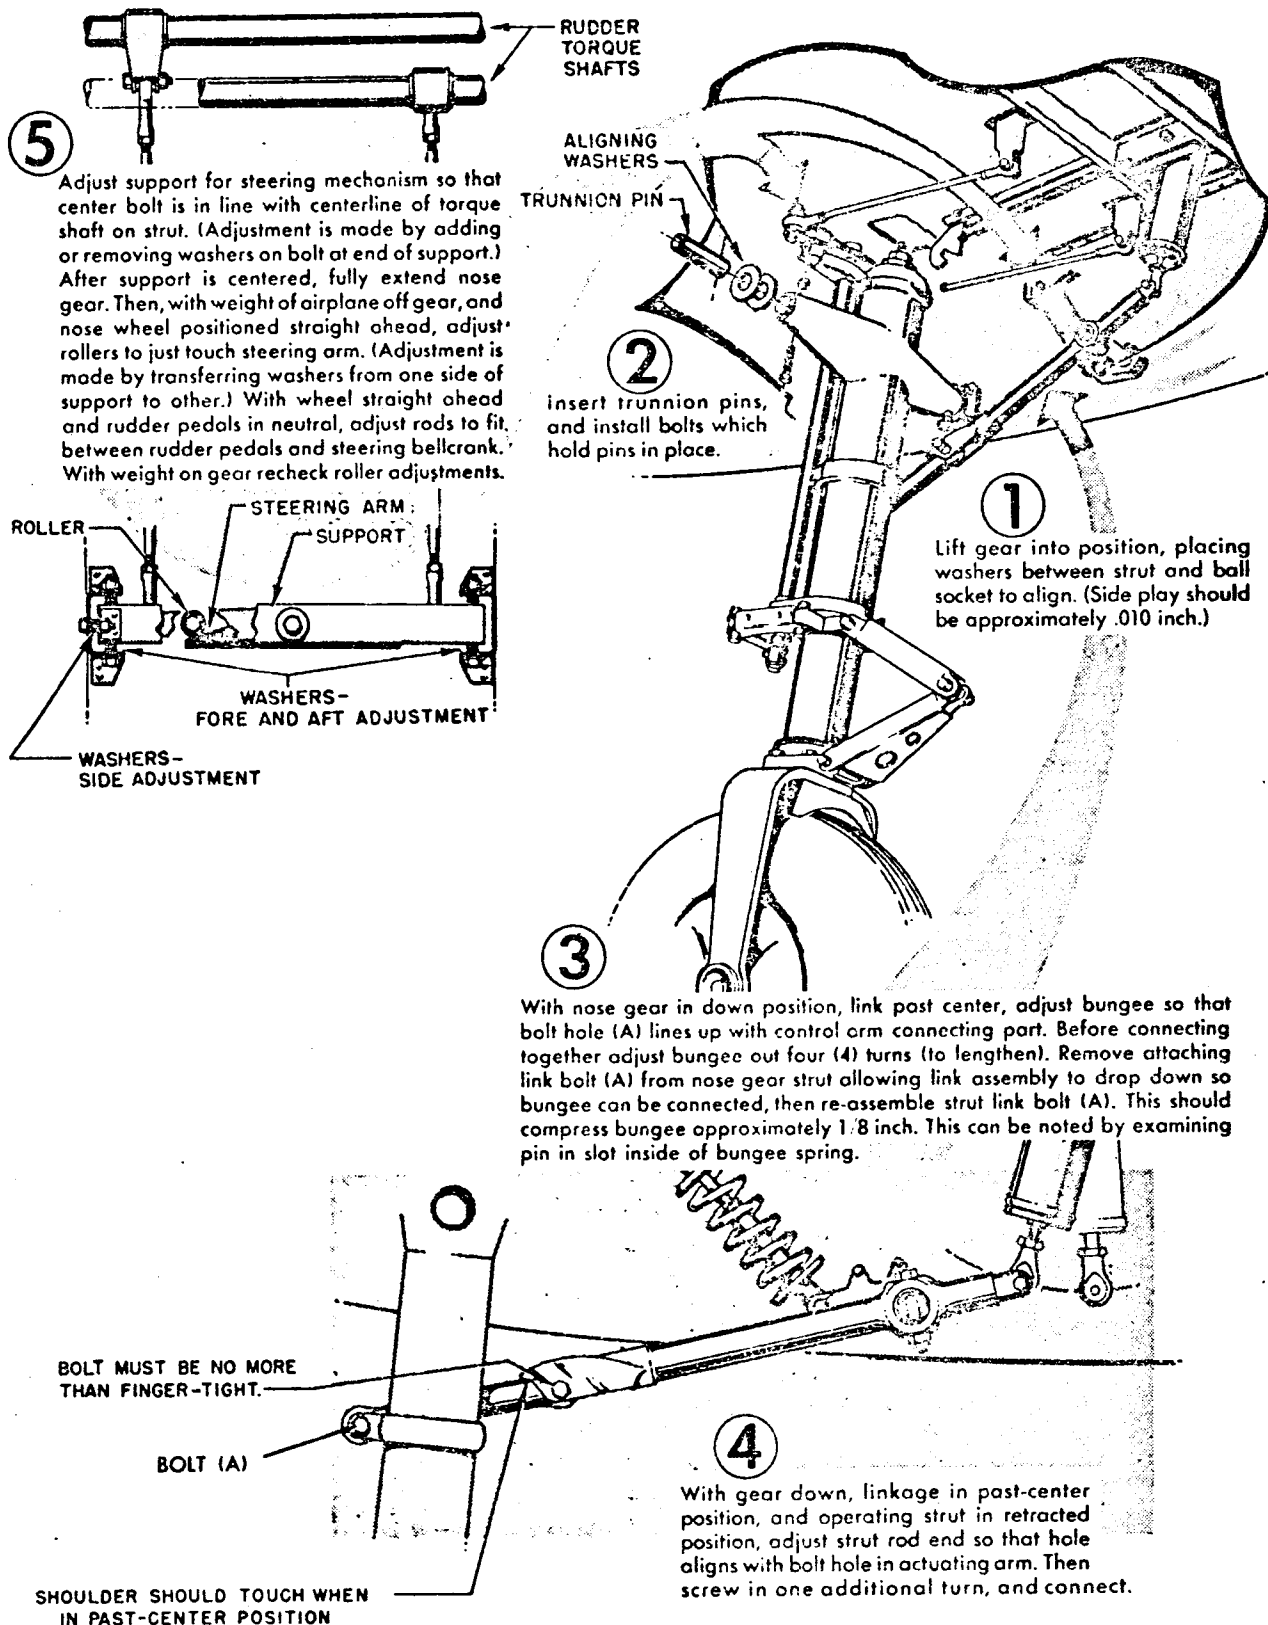

Figure 31 - INSTALLING AND REMOVING NOSE GEAR ASSEMBLY
**Installing and Removing Nose Gear Assembly—See figure 31.**